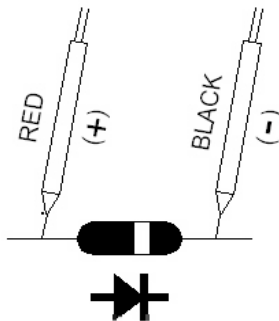

Fig. 2
- 5) a. When connected with polarity as shown in Fig. 2, a forward current flow is established and the approx. Diode Forward Voltage (VF) value in volt will appears on the display reading. If the diode under test is defective, ".000 " or near ".000 " value ( short circuit ) or " OL " ( open circuit ) will be displayed.